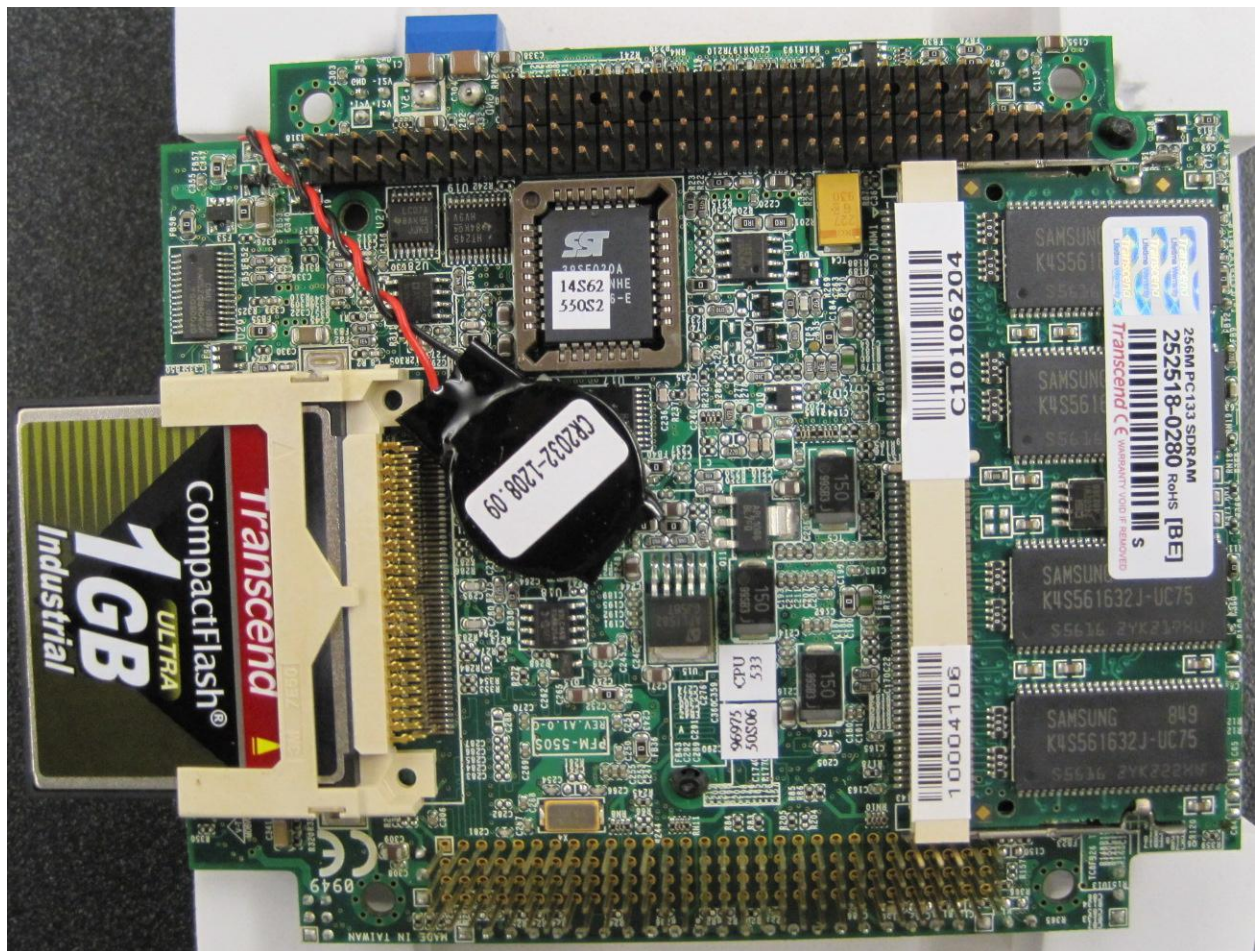

Figure 17 The underside of the CPU module with the RAM and CFC inserted in their respective slots.
2. Connect the memory (RAM) and the compact flash card to the CPU module as shown below in Figure 17.